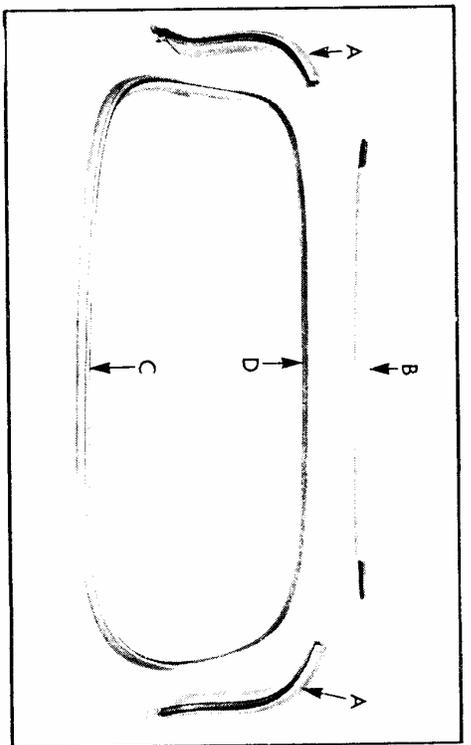

Fig. 8 Windshield Assembly – Disassembled
1. Underneath the instrument panel, remove twelve (12) nuts holding windshield assembly to cowl.
6. Remove the header molding and upper frame assembly as a unit. Fig. 8 shows an exploded view.